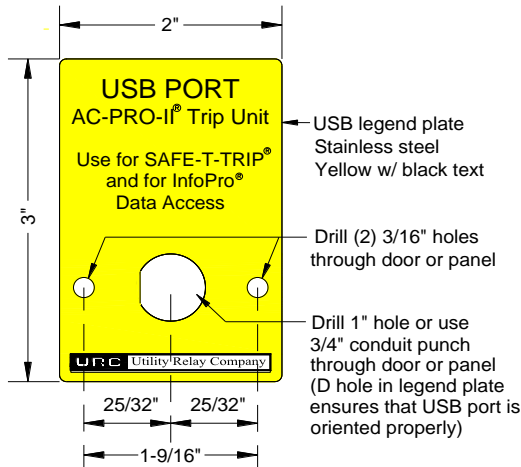

Figure 5.6: USB Extension Plate Drilling
1. Find a suitable location on the cubicle door and mark the three (3) holes using the dimensions in Figure 5.6.
2. Drill two (2) 3/16" mounting holes.
4. Attach the USB legend plate to the front of the cubicle door using the supplied two (2) 8-32 screws, nuts, and lock washers.